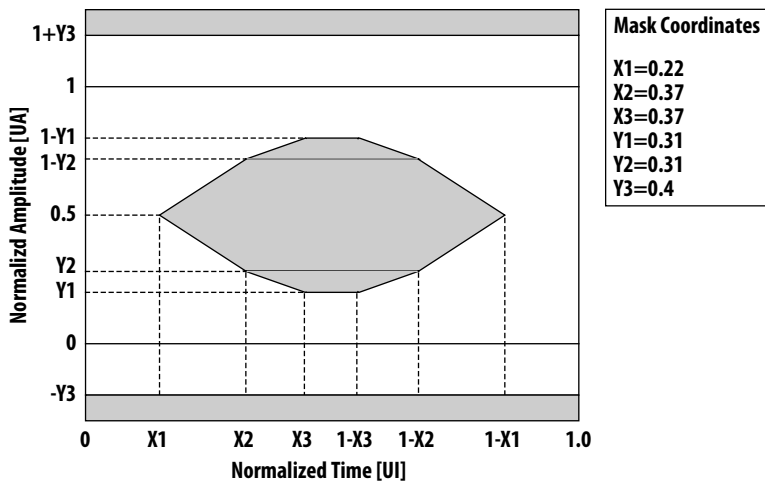

Figure 5. Transmitter Eye Mask – This eye mask is based up on a 5 e-5 hits per sample
1. The position of case temperature measurement is shown in Figure 5.